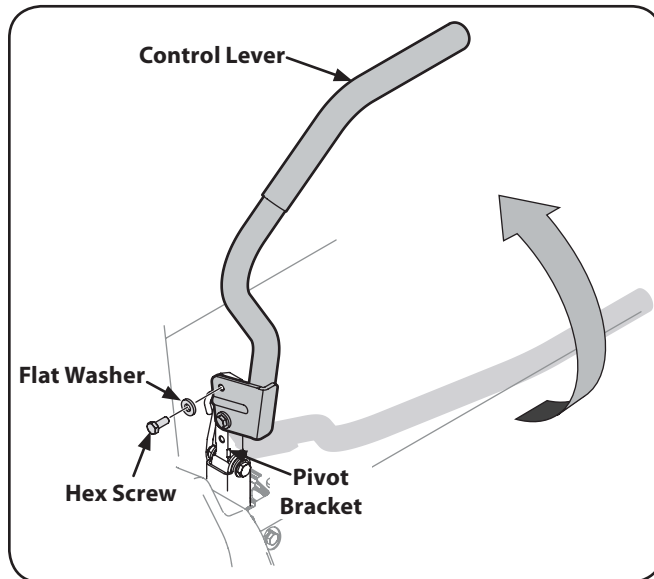

Figure 3-3
2. Lift and swing that control lever upward until the hole in the lever bracket aligns with one of the holes in the pivot bracket. See Figure 3-3.
3. Slide the flat washer onto the hex screw. From the outside, insert the hex screw with washer through the control lever slot and the hole of the pivot bracket. See Figure 3-3. Using a ½" wrench snug the screw, but do not fully tighten.